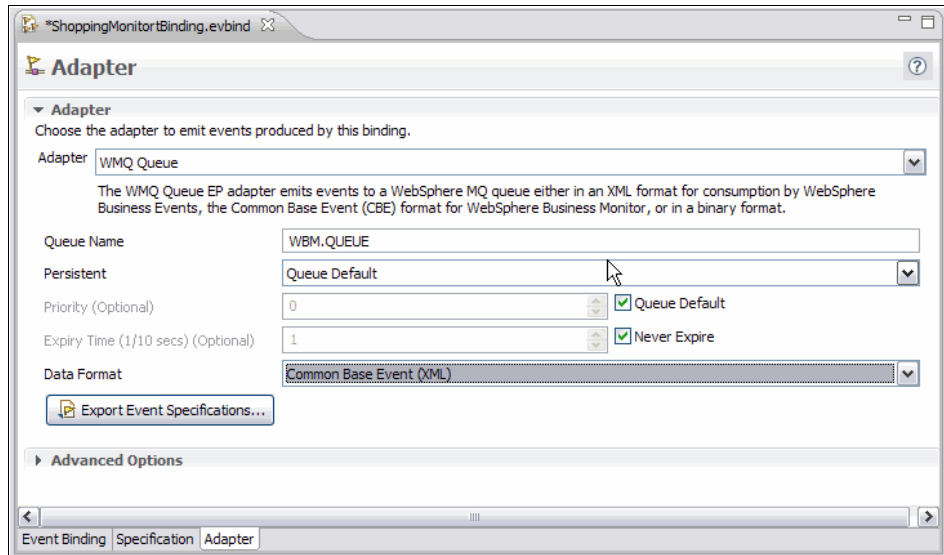

Figure 5-60 WebSphere Business Monitor adapter specifications
5. Click the Adapter tab (Figure 5-60 on page 145) and set the following values: